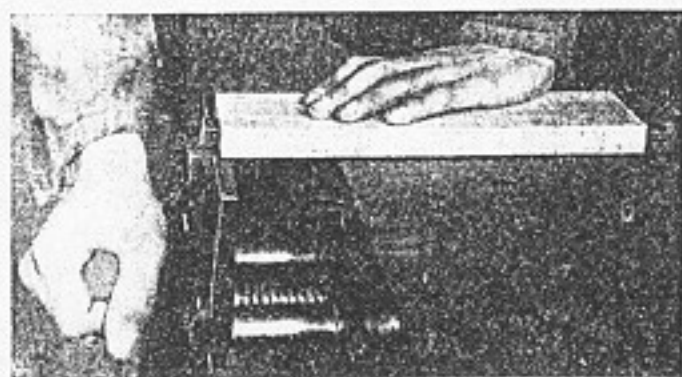

Fig. 90. Clamping a board for surface planing.
2. The board is clamped so that it rests flat on the bench and its ends are held securely between a bench stop and the vise dog (Fig. 90). The sides of a board never should be clamped in a vise, because when the vise is tightened the board will bend.